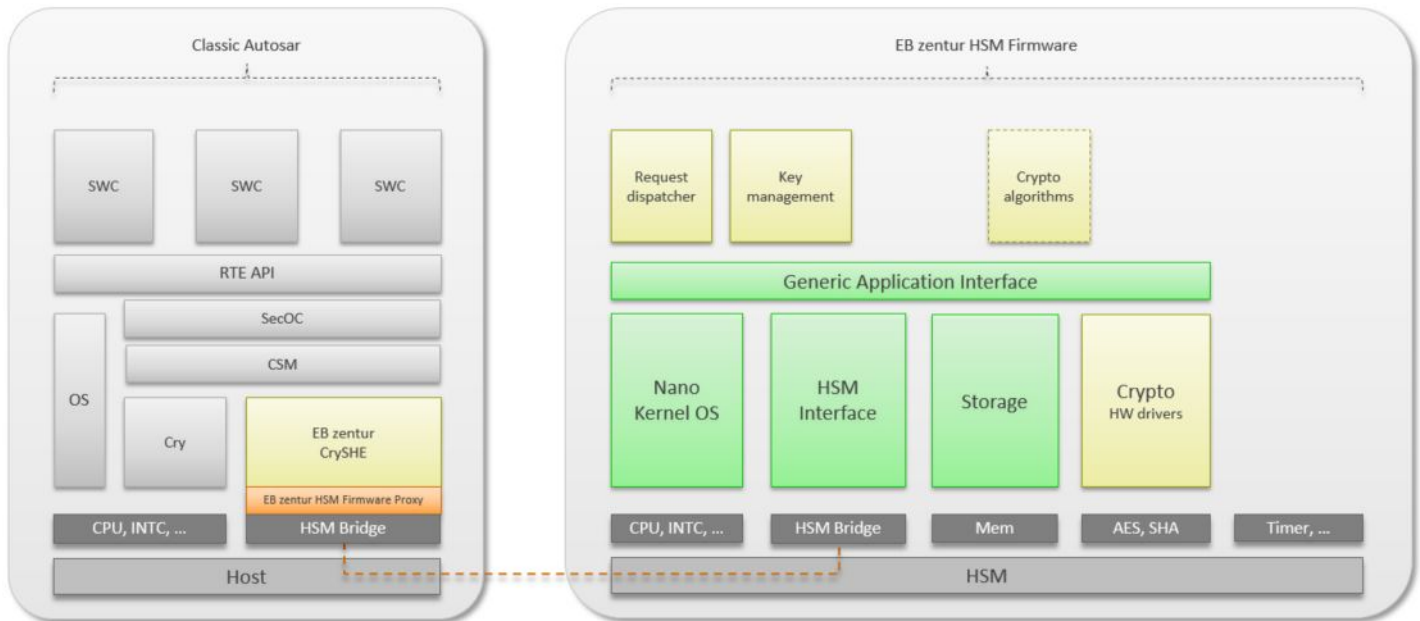

Figure 4.1. ACG 7 integration
- ▶ EB tresos AutoCore Generic 7 products (ACG7 AUTOSAR 4.0/4.1/4.2) accomplished by using a CrySHE module, see Figure 4.1, "ACG 7 integration"